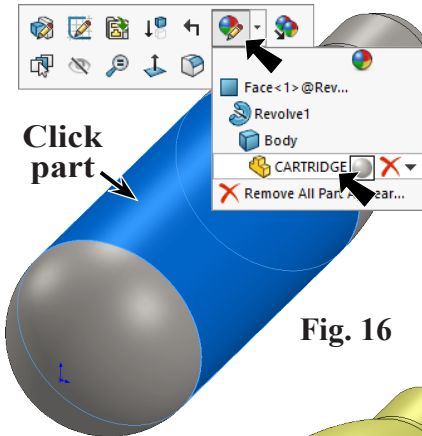

Fig. 16
Step 1. Click the part, expand **Appearance Callout** on the context toolbar and click **CARTRIDGE**, Fig. 16.